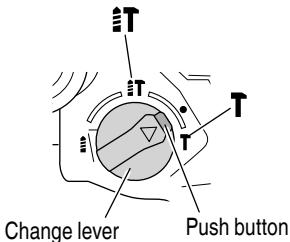

Fig. 24
- (1) Mount the bull point or cold chisel.
- (2) Press the push button and set the change lever to middle of **IT** mark and **T** mark (Fig. 24).